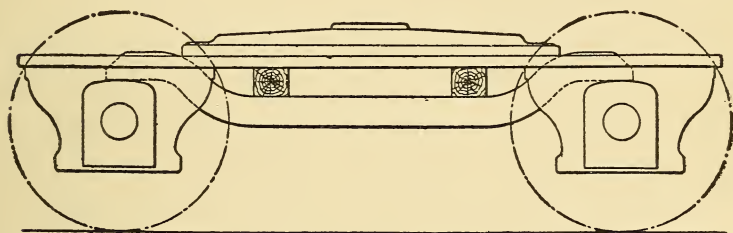

FIG. 44.—METHOD OF BLOCKING ENGINE TRUCK FRAME WITH BROKEN SPRING.
*A.* The front end of the engine should be raised and the truck frame blocked up over the equalizers, as shown in Fig. 44. The blocking should be put over the equalizers because if it is put on the axle boxes, the increased stress put upon